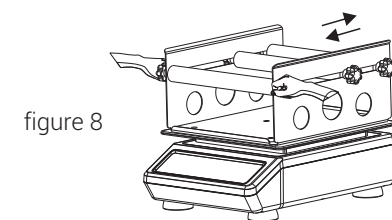

figure 8
3. Install wheel and fixed handle. Do not fasten the screw to make sure the wheel can move back and forth along the waist-shaped long hole on Universal Attachment as shown in the figure 8.